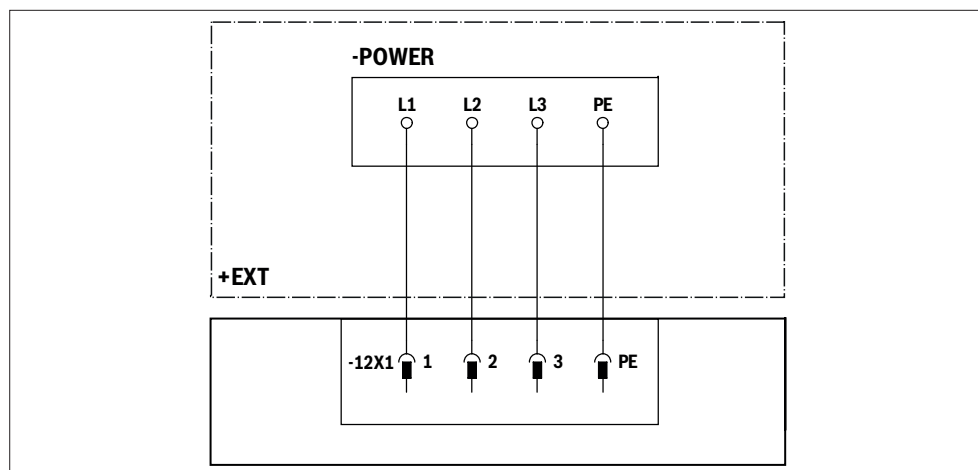

Fig. 16: Assignment of port 12X1: Feed-in/voltage supply
- ▶ Assign the mating connector to the power supply as shown in Fig. 16.